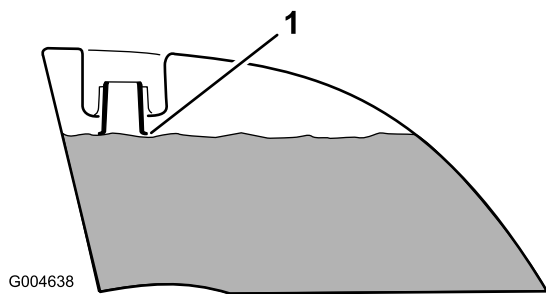

Figure 9
4. Add fuel to both fuel tanks, until the level is even with the bottom of the filler neck (Figure 9). **Do not over fill the fuel tanks.**